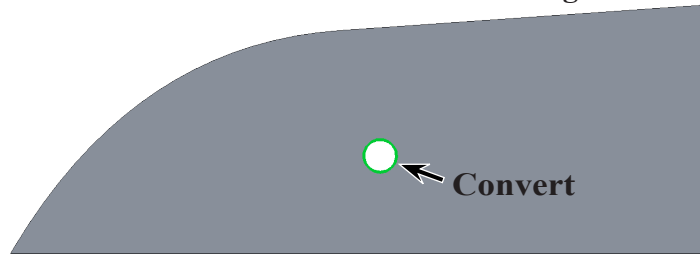

Fig. 68
Step 4. In the Convert Entities Property Manager: under Entities to Convert, **Fig. 67** click **edge of front axle hole in sketch**, **Fig. 68** click OK .